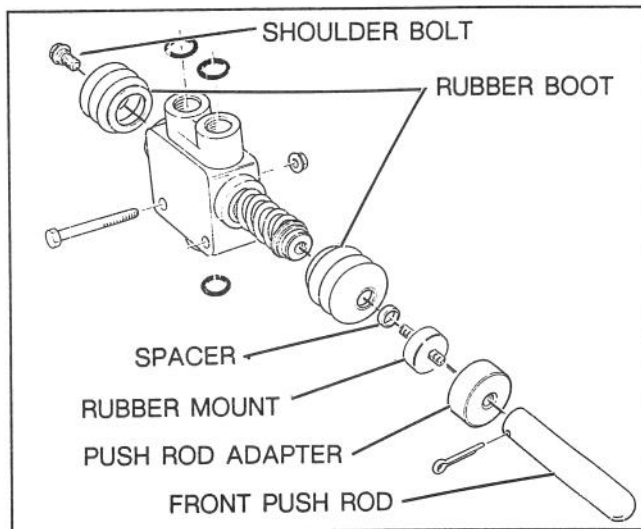

Figure 4
1. Install a rubber boot over output end of valve spool and onto edge of valve boss. Thread shoulder bolt into spool end (Fig.4).
2. Install a rubber boot over input end of valve spool (Fig.4). Stretch boot so it fits over casting flange.
3. Insert a spacer into boot opening, on input end of valve spool (Fig.4).
4. Thread the rubber mount, removed from old valve, into input end of spool (Fig.4).
5. Thread a push rod adapter onto rubber mount (Fig. 4).
6. Mount cotter pin to new front push rod as shown in fig.4.
8. Coat (3) new o-ring seals with oil and install in valve.
10. Mount valve to frame using (2) capscrews and flange locknuts (Fig. 4). Make sure push rod is aligned with input end of valve spool.